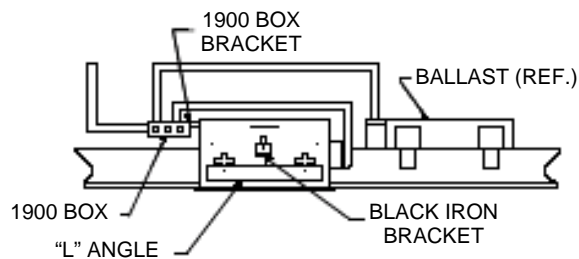

FIG. 3
8. Drop flex through top of fixture, make all connections to 1900 box. Push flex and 1900 box back into ceiling. Slip 1900 box bracket into slop on side of fixture housing (See Fig. 3).
12. Insert (2) #10 machine screws provided in hardware package into mounting holes on door frame. Slip fiber captive washers onto screws so screws will be retained for future maintenance.